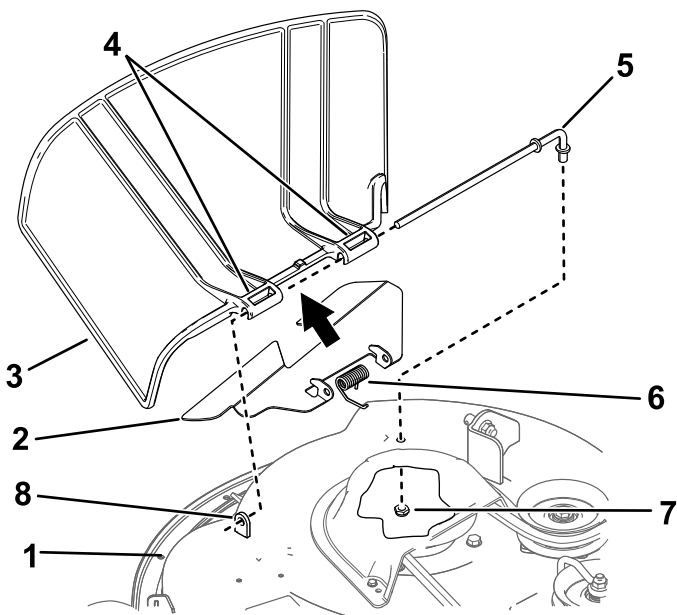

Figure 74
- Remove the nut (3/8 inch) from the rod under the mower (Figure 74).
- Slide the rod through the second grass-deflector pivot (Figure 74).
- Secure the rear end of the rod into the mower with a nut (3/8 inch) as shown in Figure 74.
- Slide the rod out of the short stand-off, spring, and grass deflector (Figure 74).
- Install the new grass deflector (Figure 74).